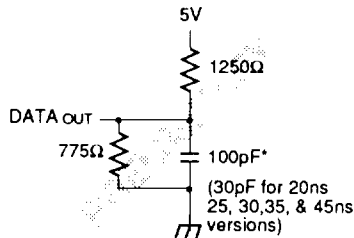

Figure 1. Output Load
Output Load	See Figures 1, 2, 3 & 4
1. Transition is measured ±500mV from low or high impedance voltage with load (Figures 1, 2 and 3).
1. Transition is measured $\pm 500mV$ from low or high impedance voltage with load (Figures 1, 2, 3 and 4).
1. Transition is measured $\pm 500\text{mV}$ from low or high impedance voltage with load (Figures 1, 2 and 3).